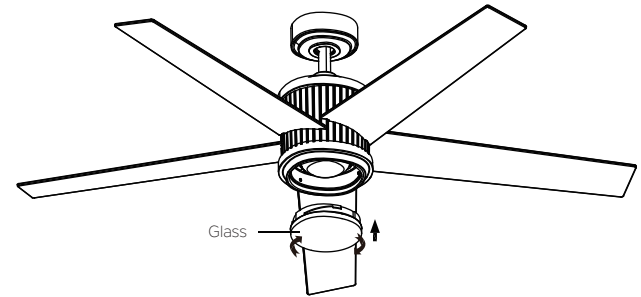

Fig. 21
Step 3. Secure the glass to switch housing by twisting in a clockwise direction, twist the glass gradually until it snaps on to the switch housing. Do not over-tighten. (Fig. 21)